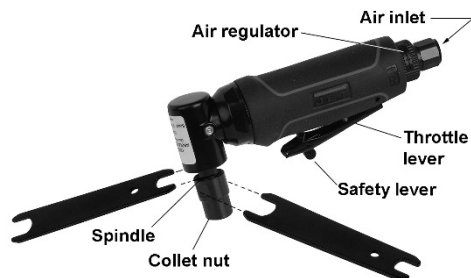

Figure 1 (JAT-405 shown)
1. Loosen collet nut using the two wrenches on the flats of the collet nut and spindle (Figure 1). Keep wrench on spindle stationary while turning wrench on collet nut.
3. Remove protective cap from air inlet (Figure 1). If an in-line oiler is not being used, add 4 or 5 drops of air tool oil (not included) in to the air inlet.